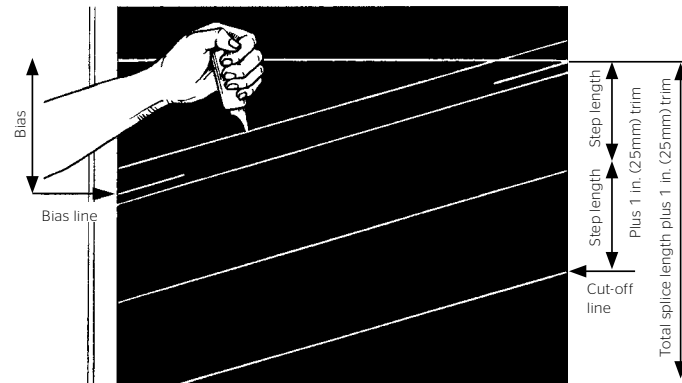

Fig. 5-5: End of belt
6. Measure the splice length, plus 1 in. (25mm) trim starting from the end of the belt (Fig. 5-5).
4 ply = 25 in. (635mm), etc. Mark the cut-off line, which is parallel to the bias line (Fig. 5-5).
12. Cut off the belt at the cutoff line (Fig. 5-5).